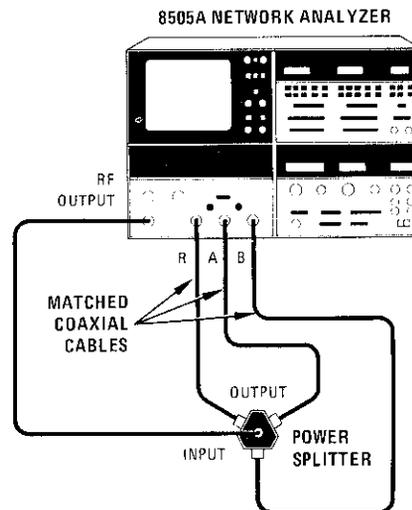

Figure A5-10. Test Setup for Phase Adjustment of A1A4, A1A5, and A1A6.
- b. Connect equipment as shown in Figure A5-10.
- (1) If both A/R and B/R measurements are positive, determine which is more positive. If A/R is greater than B/R, the "2" board should be installed in A4 position. If B/R is greater than A/R, the "3" board should be installed in A4 position.
- (2) If both A/R and B/R measurements are negative, leave the boards where they are installed.
- (3) If A/R is positive and B/R is negative, install the "2" board in A4 position.
- (4) If B/R is positive and A/R is negative, install "3" board in A4 position.